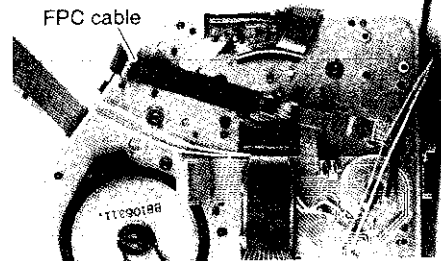

Fig. 3-9-1
- ① Remove the cassette housing (see para. 4-1).
- ② FPC cable connected to the A/C head is taped on the reverse side of the main plate with pressure sensitive adhesive double coated tape (see Fig. 3-9-1). Melt soldering of the FPC cable soldered on the FPC sensor assembly. Detach it from the tape carefully and take it off the slant T.
- ③ Remove nut S.
- ④ Pull the A/C head assembly gradually off the shaft on the capstan motor stator.
- ⑨ Put the FPC cable connected to the A/C head through slant T. Tape it on the reverse of the Main plate with pressure sensitive adhesive double coated tape (see Fig. 3-9-1). Solder it on the FPC sensor assembly.
- ⑩ Mount the cassette housing.
- ⑪ Following the description in para. 5-5, A/C head adjustment.